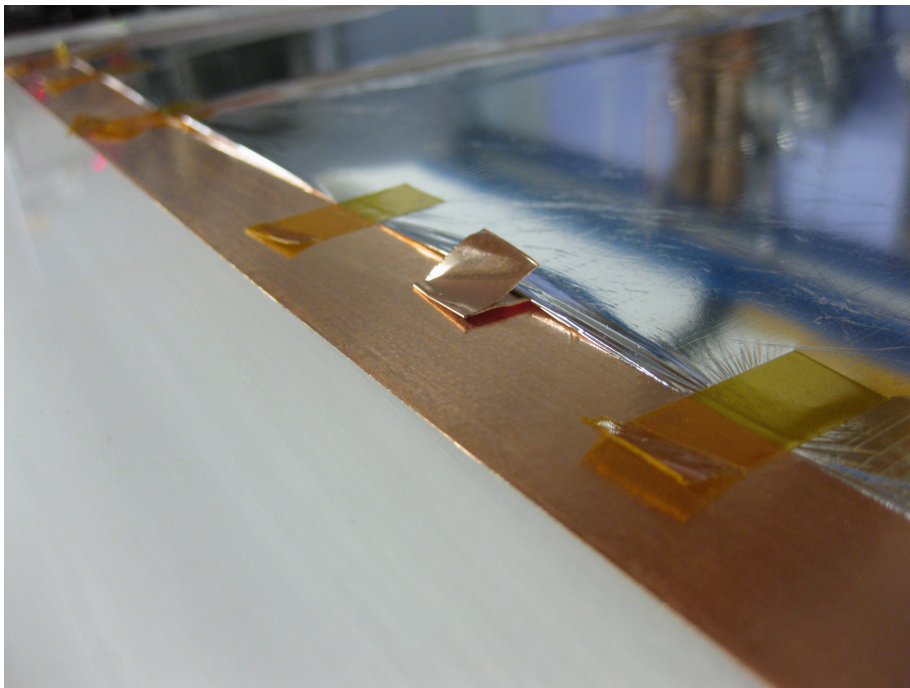

Figure 22: Once the copper tab is in place, the paper shims are removed.
3. Remove the paper shims, allowing the film to fall onto the lower jaw of the copper tab (Figure 22).